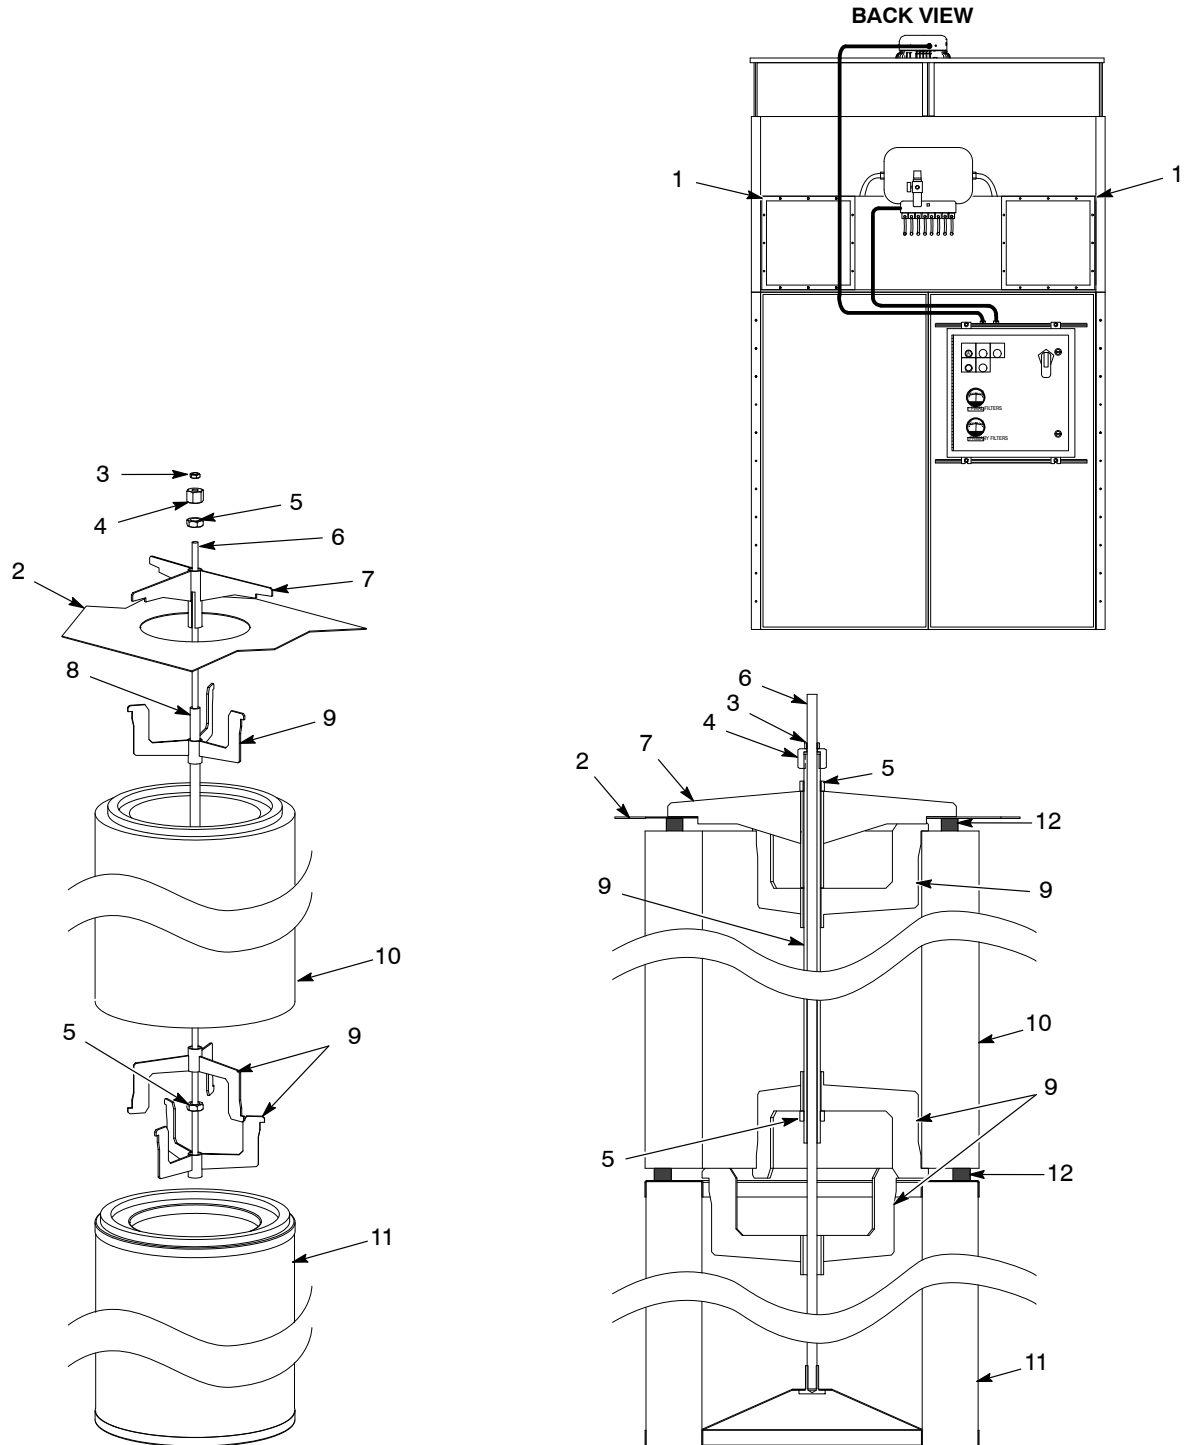

Figure 4 Typical Cartridge Filter Installation (26-in. Double-Stack Cartridge Shown)
8. See Figure 4. Install the cartridge filter rods and filters as described in *Cartridge Filter Installation*. Attach the retainers to the bottom of the filters.
See Figure 4.